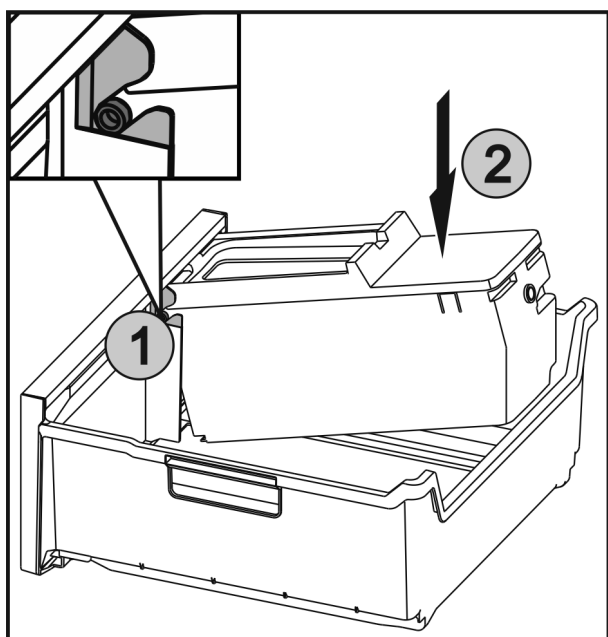

Fig. 41
- ▶ Push the axles Fig. 41 (1) on the EasyTwist-Ice into the guides and push the rear side Fig. 41 (2) until the lugs engage.